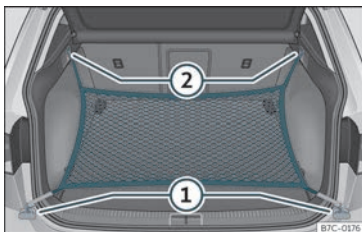

Fig. 118 In the luggage compartment: rings ① and hooks ② for attaching the net bag.
- Secure the short net hooks to the fastening rings >>> **Fig. 118** ① >>> Δ . The bag zip should be facing upwards.
- Secure the straps in the bag hooks ②.